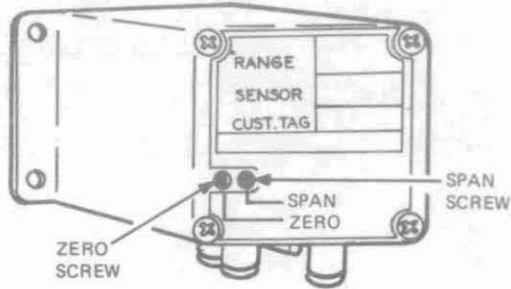

Figure 6
2. Set required minimum input resistance on decade box. If output is not 4 ± 0.16 mA, adjust ZERO screw (Figure 6).
3. Set required maximum input resistance on decade box. If output is not 20 ± 0.016 mA, adjust SPAN screw (Figure 6).
4. Adjust ZERO screw (see Figure 6) so that output reading is 12 ± 0.016 mA.
6. Adjust SPAN screw (see Figure 6) so that output reading is 20 ± 0.016 mA.